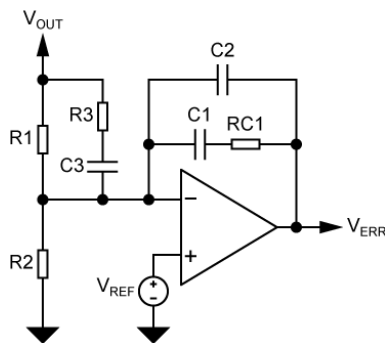

Figure 12. Type III Compensation Network
The power inductor and output capacitor create the resonant frequency at Fo. It is preferred to make the desired crossover frequency (loop bandwidth) greater than this at Fco with a phase margin (PM) of typically 50 degrees. The maximum phase boost, on a log scale, occurs approximately half way between the highest zero (FZ2) and the lowest pole (FP1). To be precise, it is at $\sqrt{FZ2 \times FP1}$. The required compensation network for this is a double pole, double zero or type III network shown in Figure 12.